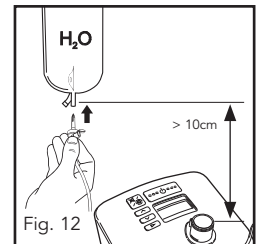
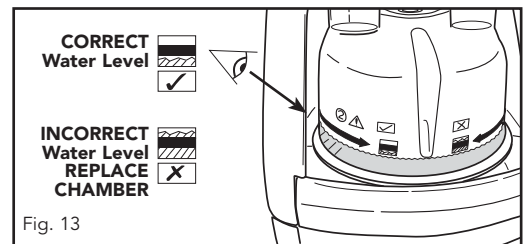

Fig. 12
Fig. 13
7. Attach the water bag to the hanging bracket at least 10 cm (4") above the unit, and push the bag spike into the fitting at the bottom of the bag. Distilled water **MUST** be used in the water bag. Open the vent cap on the side of the bag spike (Fig. 12). The chamber will now automatically fill to the required level and maintain that level until the water bag is empty. Check that water flows into the chamber and is maintained below the fill line, as shown in Fig. 13. If the water level rises above the fill line, replace the chamber immediately.
Replace the chamber if its plastic walls become cracked or cloudy or if the chamber base becomes pitted. (Note: If the chamber leaks at all, it should be replaced immediately.) The MR290 auto-fill chamber in Section 5.2 must be changed every 2 months or if it is damaged and does not fill to the correct water level shown in Fig. 13.